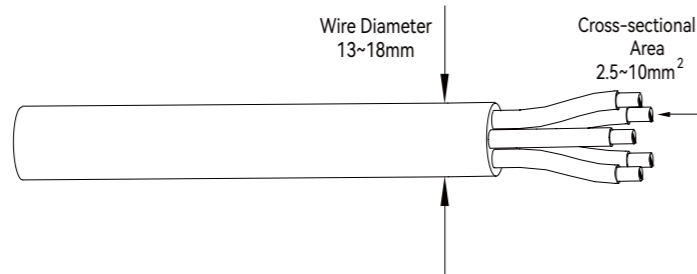

Figure 5-4
- ② According to the figure 5-4, select an appropriate cable, peel the insulation sleeve of AC cable off for 50mm, and peel off the end of 3L/PE / N wires for 8mm.